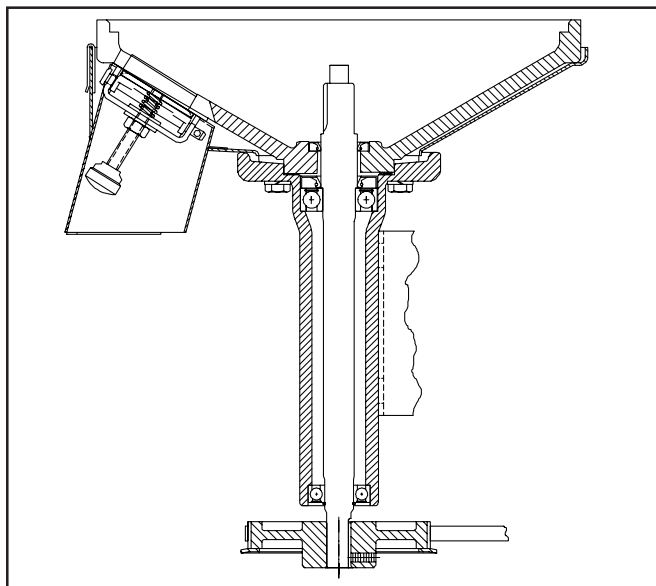

Fig. 17 - Drive Bearing Assembly
4. Remove the two cap screws and lock washers holding the drive bearing assembly to the frame (Fig.17).